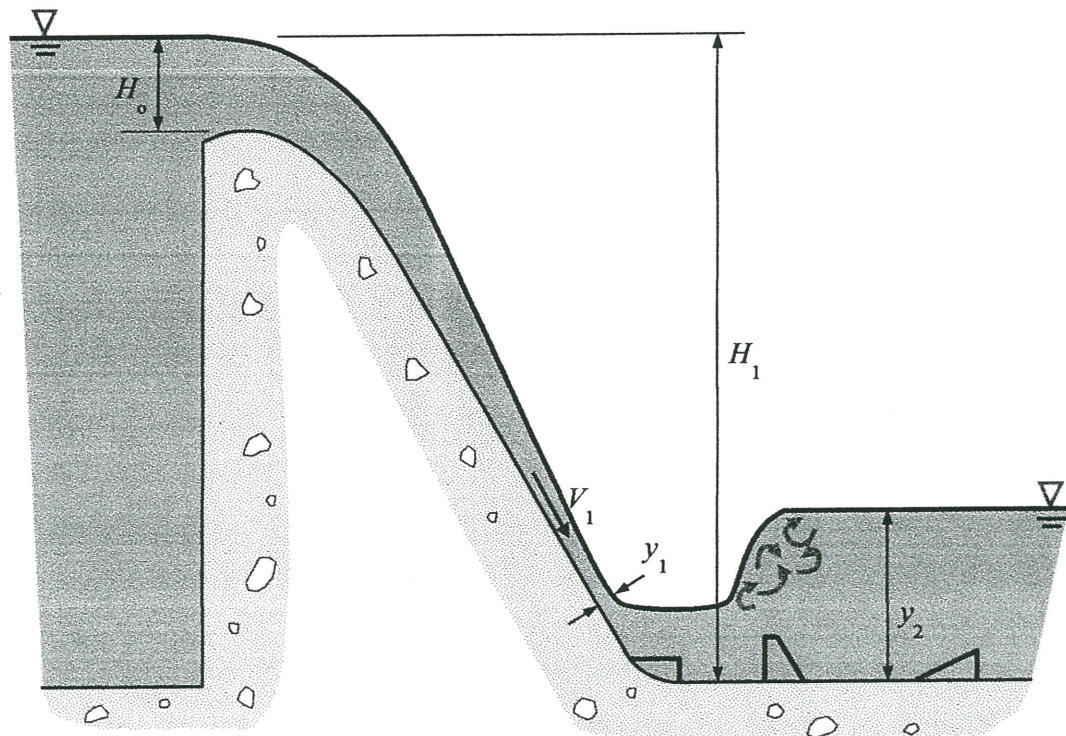

FIGURE Q5(d)
- (d) A weir is built with $H_1 = 36$ m and $H_0 = 8$ m as shown in **FIGURE Q5(d)**. The weir discharges $90 \text{ m}^3/\text{s}$ of flow through a 10 m wide spillway. Design an USBR stilling basin type III downstream. (10 marks)